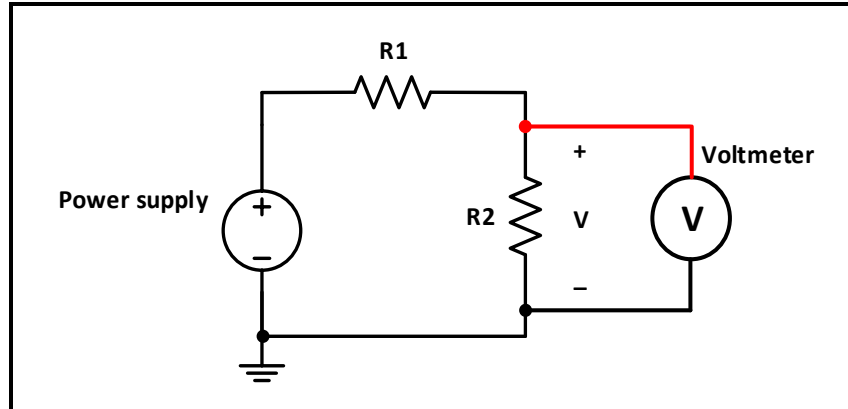

Figure 2.6: Multimeter connection to measure voltage.
- A voltmeter is connected **in parallel** with the circuit element where the voltage measurement is desired as shown in figure 2.6. Since the voltage across parallel elements